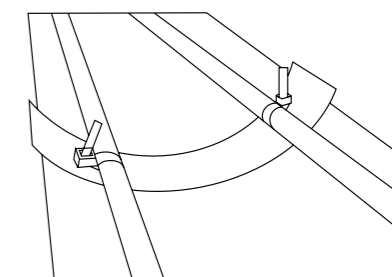

Figure 2. Bar attached to gutter
6. For round gutters the bar will need to be bent around the edge of the gutter, and the inside profile. Pliers can be used for this (fig 2).
8. All cable ties should be tightened and trimmed as in figure 2.